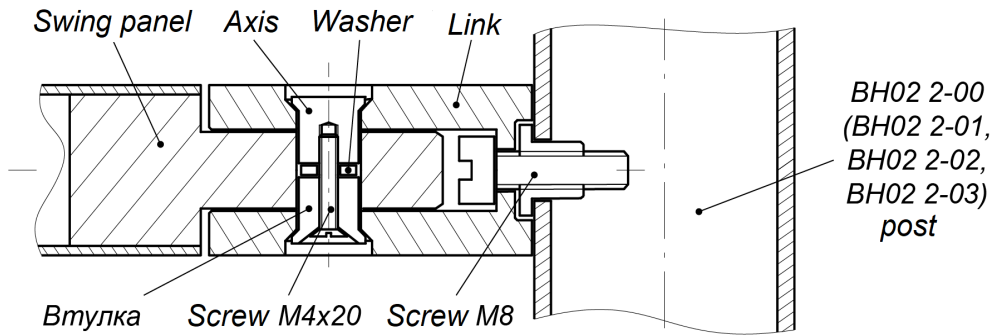

Figure 15. Fastening of joints to the support post of rotary railing section
4. Fix two drag links on the support post with two M8×25 screws as depicted on Figure 15.
3. On the railing posts, fasten the joints to the swing panels, use M8 screws (Figure 15).
4. Install the posts on the mounting surface and preliminary fasten them with M10 anchor bolts, previously lift decorative covers. Assemble the joints and install the swing panels on the posts (see Figure 15).
5. Fix two drag links on the support post with two M8×25 screws, as depicted on Figure 15. Install the support post into working position, previously lift decorative cover. It is recommended to use 50×20×0,5...0,8 mm mounting pads in order to secure that posts were installed vertically.